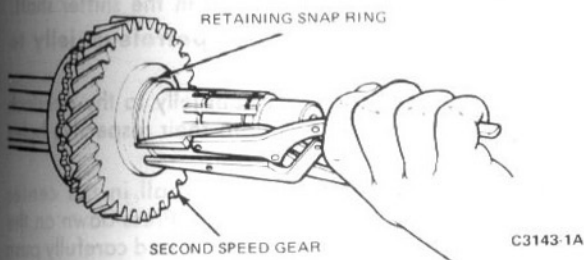

FIG. 17 Removing Second Speed Gear Retaining Snap Ring
6. Remove the snap ring from behind the second speed gear and remove the gear and thrust washer from the output shaft (Fig. 17).